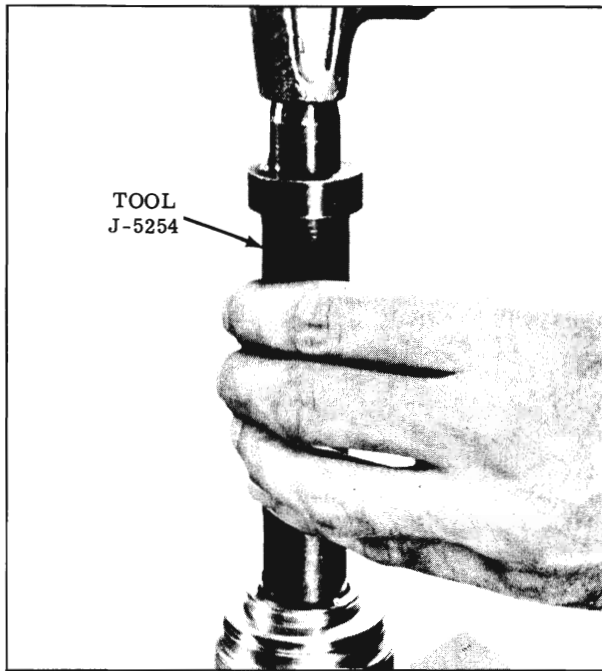

Fig. 4-258 Removing Bearing and Seal
3. If the needle bearing is to be replaced, remove the retaining ring using internal pliers, then drive the dust seal, seal and bearing from the adjuster plug with Tool J-5254. (Fig. 4-258)